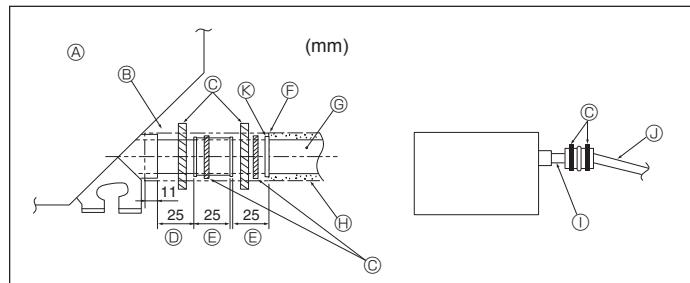

Fig. 5-2
⑬ O.D. Ø32 PVC TUBE	⑭ Downward slope (1/100 or more)
⑮ Make it as large as possible	⑯ O.D. Ø38 PVC TUBE for grouped piping. (9 mm or more insulation)
⑰ Indoor unit	⑱ Up to 85 cm
⑲ Make the piping size large for grouped piping.	⑳
1. Connect the drain socket (supplied with the unit) to the drain port. (Fig. 5-2)